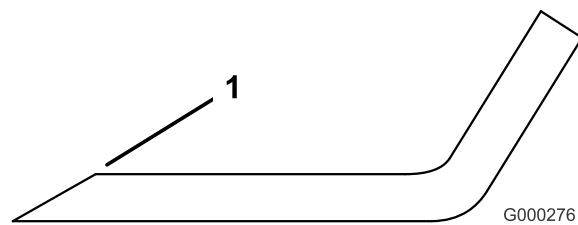

Figure 42
1. Use a file to sharpen the cutting edge at both ends of the blade (Figure 42). Maintain the original angle. The blade retains its balance if the same amount of material is removed from both cutting edges.